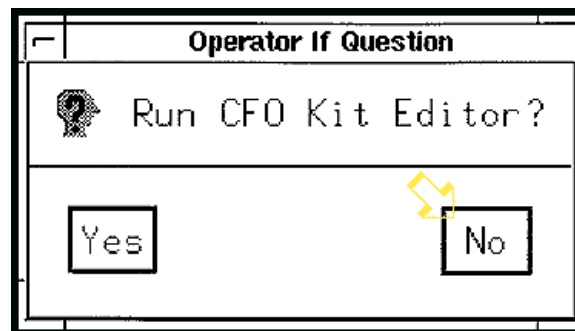

Figure 7
- 105 On the “Run CFO Kit Editor” menu, click on “No.” See the arrow in Figure 7.